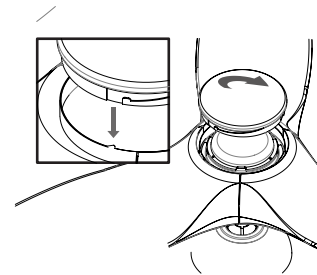

FIGURE 23
3. Tuck connections neatly into adapter plate. Place the luminaire module key holes over the 2 screws previously loosened from the adapter plate. Turn luminaire module until it locks in place at the narrow section of the key holes. Secure by tightening the 2 screws previously loosened and the one previously removed (Fig. 23).